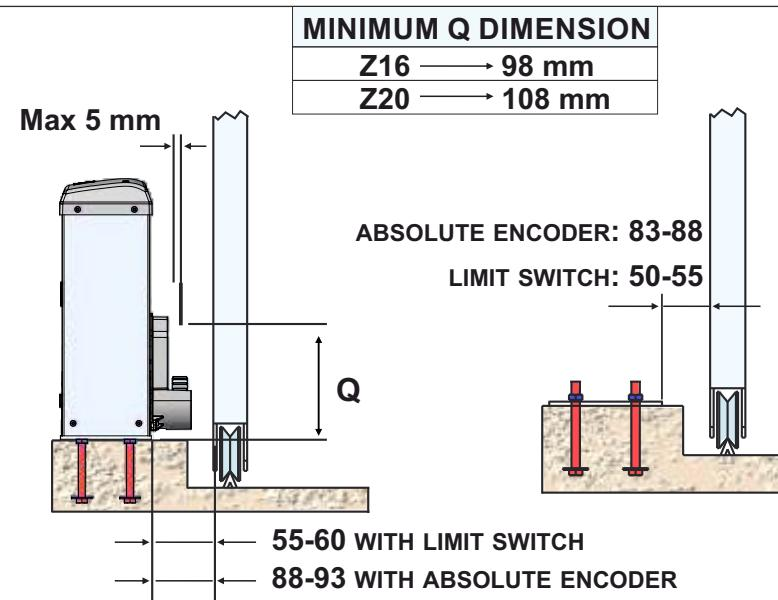

Fig. 4
- 4.3. Before concreting the plate, make sure that it is perfectly leveled and that the distance of **50 - 55 mm** as shown in Fig. 4 is respected
7.1. Fix the gearmotor to the foundation plate by the use of the supplied screws - Fig. 11, then adjust its lateral position and height - Fig. 12 - to comply with the dimensions mentioned in Fig. 4